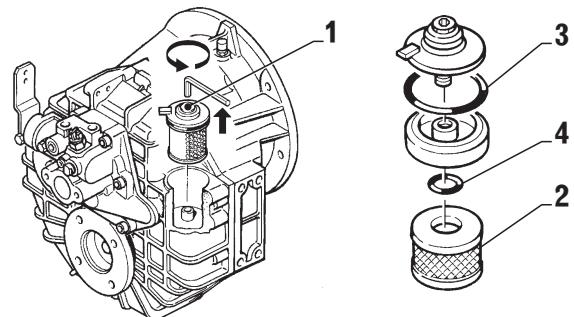

FIG. 1-1
Turn the screw that fixes the oil filter cover in a counter-clockwise direction and remove the filter from its housing (item 1, fig. 1-1). Use a 6 mm Allen wrench.
Pull filter element off (item 2, fig. 1-1).
Check O-rings (item 3 and 4, fig. 1-1) for wear, replace if necessary.